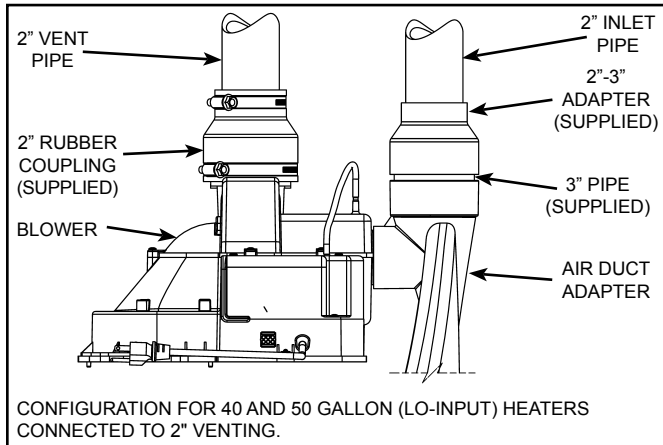
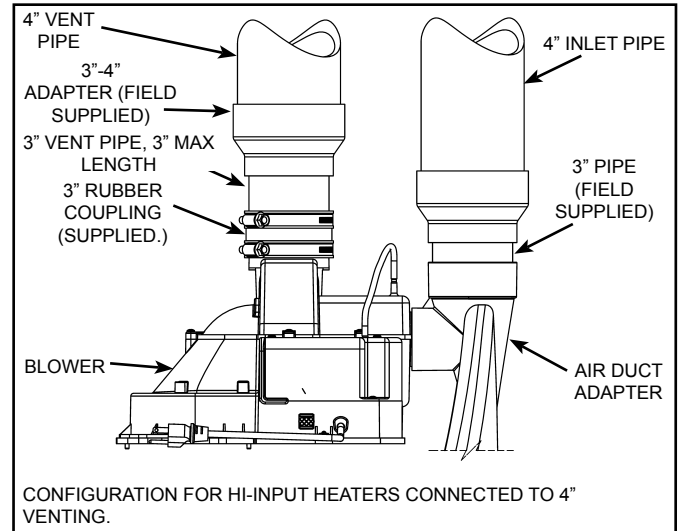

Figure 36
Figure 40
4. Make sure that the plastic tubing is still attached from the air pressure switch to the port on the blower motor housing. Make sure the plastic tubing is not folded anywhere between the pressure switch and the blower motor housing (see Figure 36 thru Figure 40).
Important: These connections must be properly seated and tightened to prevent the leakage of flue gases into the area. See Figure 36 thru Figure 40.